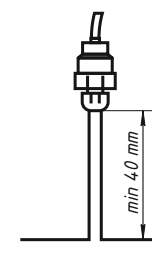

Fig 2. Extension line mount
- It is recommended to install the sensor (for the low-pressure side of the system) on the remote line in order to avoid freezing of the sensor body with frost and reduce the effect of pressure fluctuations on the readings. See fig. 2.